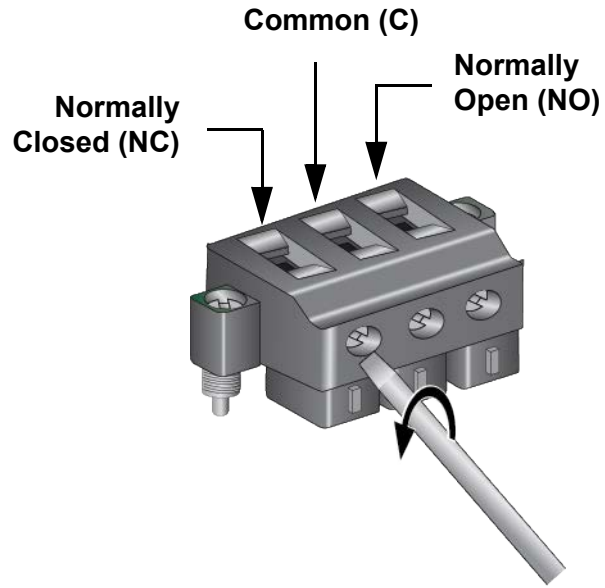

Figure 43. Loosening the Wire Retaining Screws on the Alarm Out Plug
5. Use a #1 screwdriver to loosen the two wire retaining screws that correspond to the two pins of the selected Alarm Out circuit. Your choices are Normally Closed and Common, and Normally Open and Common. Refer to Figure 43 on page 94.